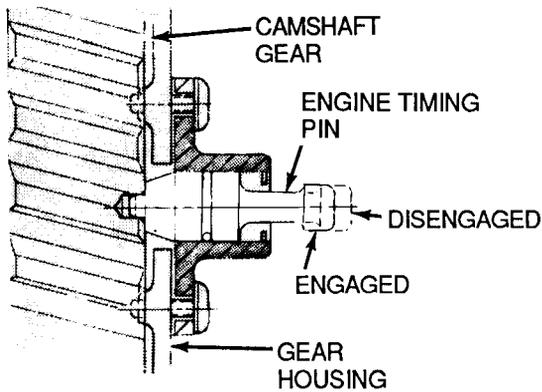

Figure 7-3
3. Disengage engine timing pin (Figure 7-3).